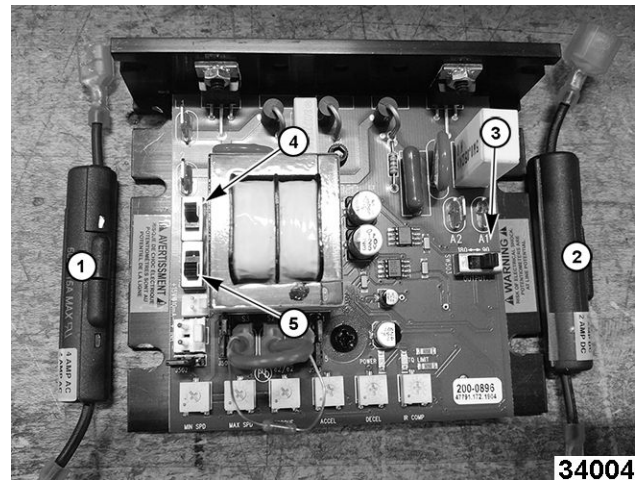

Fig. 74
2ND GENERATION CONTROLLER BOARD SHOWN IN Fig. 74
- Fuse - 1, Fig. 74, 4 amp AC.
- Fuse - 2, Fig. 74, 2 amp DC.
- 4 and 5 switches shown in Fig. 74 are both set at 115V.
- 3 switch shown in Fig. 74 should be set at 90.